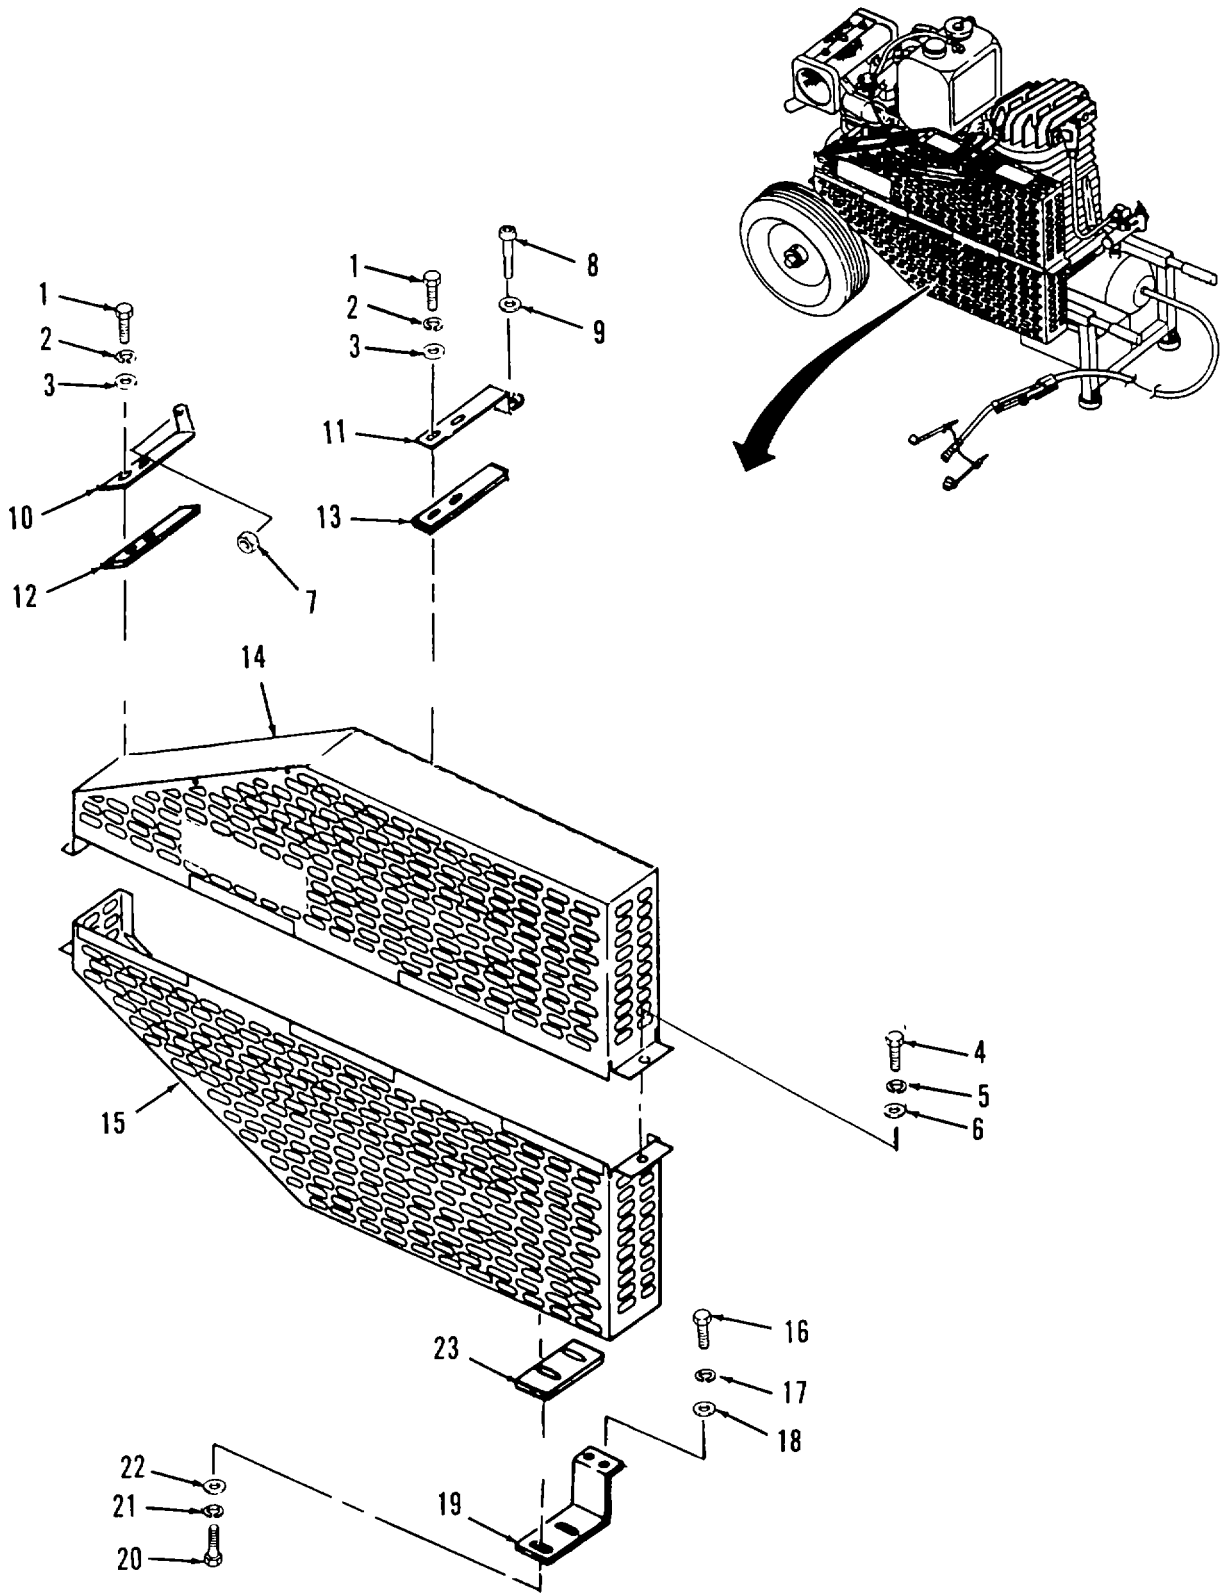

Figure 4-5. Belt Guard Repair and Replacement.
a. Removal. (Refer to Figure 4-5).
- (1) Remove four screws (1), four lock washers (2), and four flat washers (3).
- (2) Remove two screws (4), two lock washers (5), and two flat washers (6).
- (3) Remove nut (7), screw (8), washer (9), bracket (10), bracket (11), rubber mount (12), and rubber mount (13).
- (4) Remove upper belt guard frame (14) from lower belt guard frame (15).
- (5) Remove two screws (16), two lock washers (17), two flat washers (18), and bracket (19).
- (6) Remove lower belt guard frame (15) from unit.
- (7) Remove two screws (20), two lock washers (21), two flat washers (22), and gasket (23) from unit.